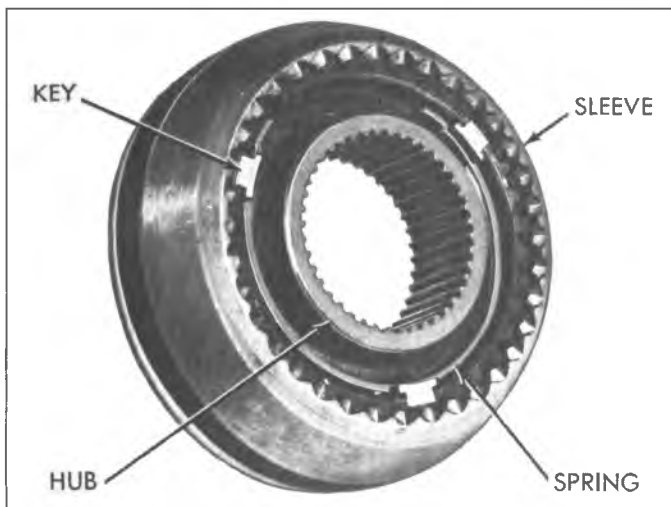

Fig. 5G--Synchronizer Assembly
3. Place the three keys and two springs in position (one on each side of hub), so all three keys are engaged by both springs (fig. 5G). Slide the sleeve onto the hub aligning the marks made before disassembly.